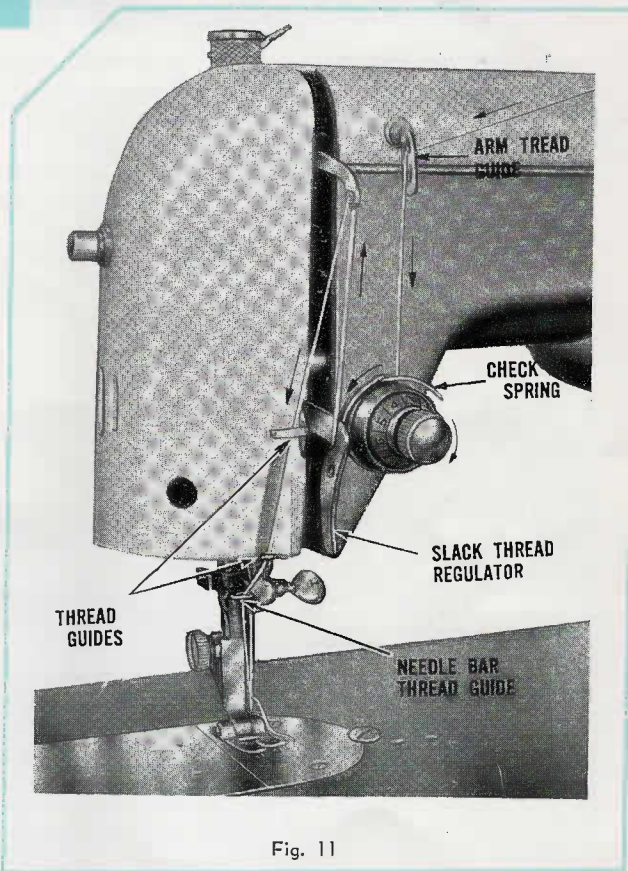

Fig. 11
1. Raise the presser bar by lifting the presser bar lifter (Fig. 11).
3. Lead the thread through the arm thread-guide (Fig. 11).
2. Lower the presser foot, by lowering the presser bar lifter (Fig. 11).